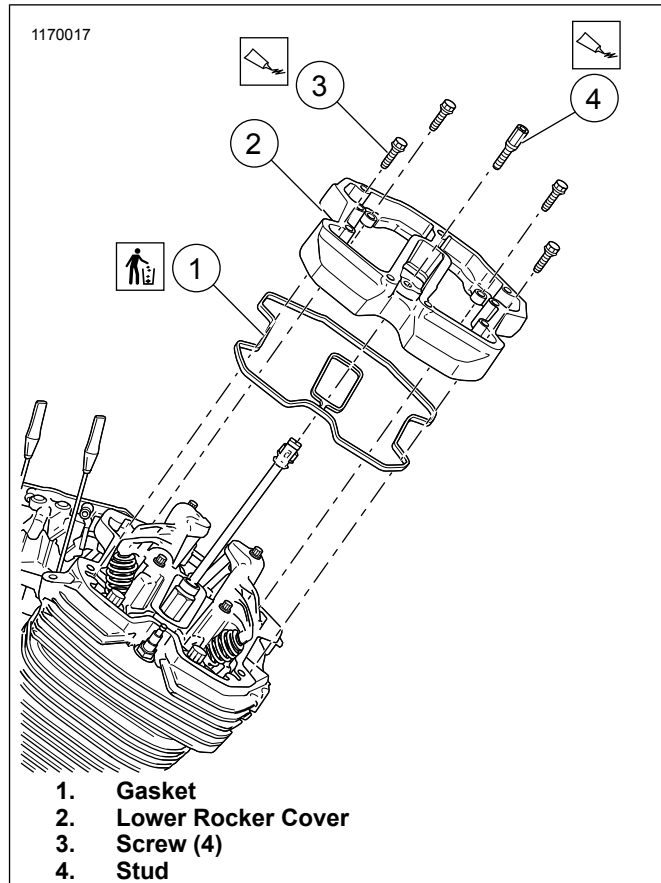

Figure 7. Lower Rocker Cover
1. See Figure 7. Remove screws (3) and stud (4).
1. See Figure 7. Install **new** gasket (1).
2. Install lower rocker cover (2).
3. Apply threadlocker to screws (3) and stud (4).